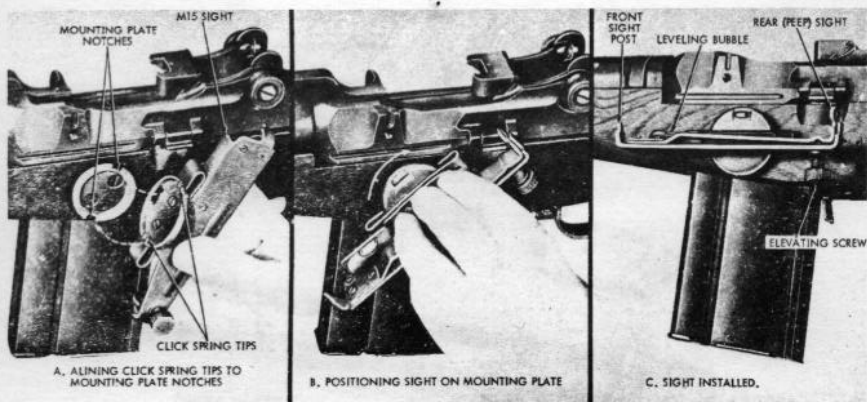

Figure 56. Installation of M15 grenade launcher sight.
*a. Installation.* Install the sight to the mounting plate, aligning notches of the plate with the click spring tips of the sight (fig. 56). Turn sight clockwise until the index line is aligned with the 0° index on the mounting plate. At this position, the leveling bubble should be level. If the bubble cannot be leveled, the rifle should be turned in to the unit armorer.
*b. Removal.* Turn sight counterclockwise until the tips of the clip springs are aligned with the notches in the mounting plate; remove the sight from the mounting plate (fig. 56). When not in use, retain the sight in its carrying case.